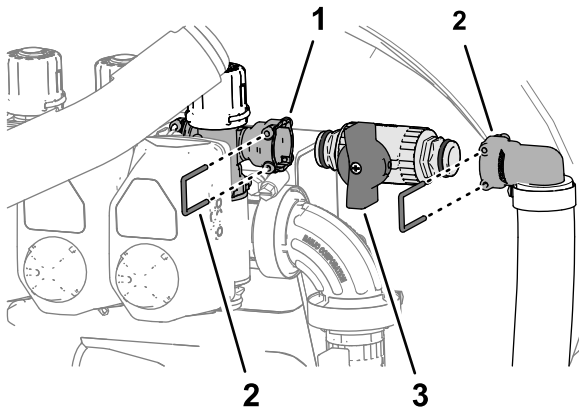

Figure 63
- A. Remove the retainer that secures the quick connect fitting of the shutoff valve to the quick-disconnect socket of the right section-bypass valve, and separate the valve from the socket (Figure 63).
- B. Remove the retainer that secures the quick connect fitting of the shutoff valve to the quick-disconnect socket of the 90° barbed fitting, and separate the valve from the socket (Figure 63).